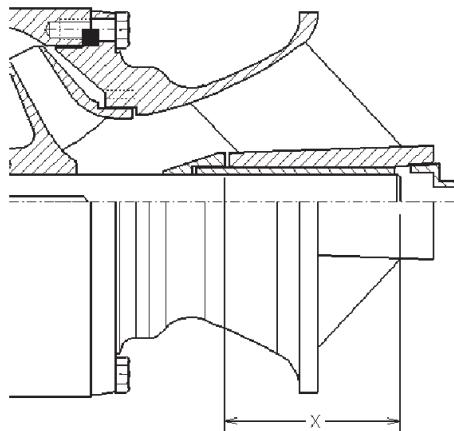

Figure 21
- If the sand collar is not assembled to the shaft, install the sand collar. The sand collar is attached to the shaft with a shrink fit. The larger diameter of the counterbore of the sand collar goes toward the suction bell bearing. Heat the sand collar until it slips over the shaft and quickly position it so that the bottom of the sand collar is set according to the "X" dimension, before it cools. See Figure 21. See Table 3 for the "X" dimensions. Slide the plain end of the pump shaft into the suction bowl/bell bearing until the sand collar rests against the suction bowl/bell.